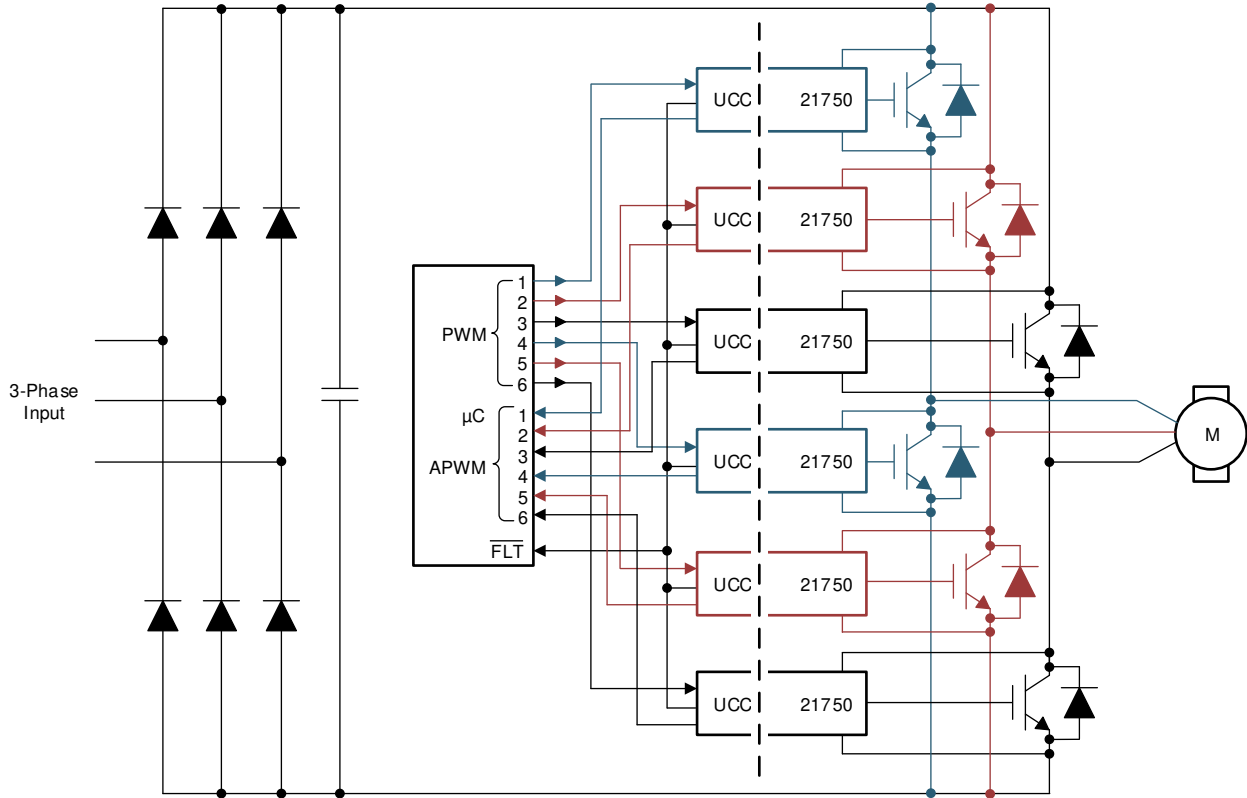

Figure 9-1. Typical Application Schematic
**Figure 9-1** shows the typical application of a half bridge using two UCC21750-Q1 isolated gate drivers. The half bridge is a basic element in various power electronics applications such as traction inverter in HEV/EV to convert the DC current of the electric vehicle's battery to the AC current to drive the electric motor in the propulsion system. The topology can also be used in motor drive applications to control the operating speed and torque of the AC motors.